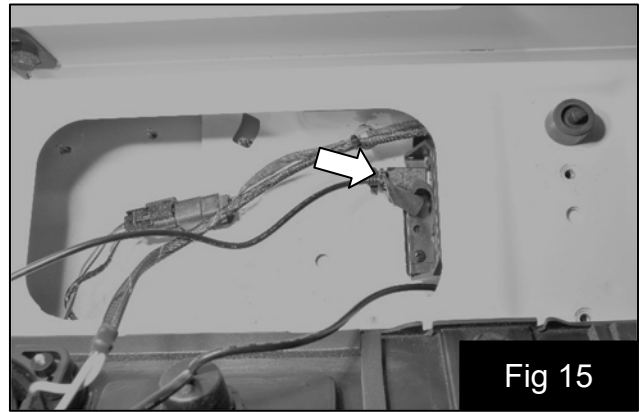

Fig 15
- 19. Connect the USB cable to the amplifier and secure to the metal tab with supplied wire tie. Fig 15